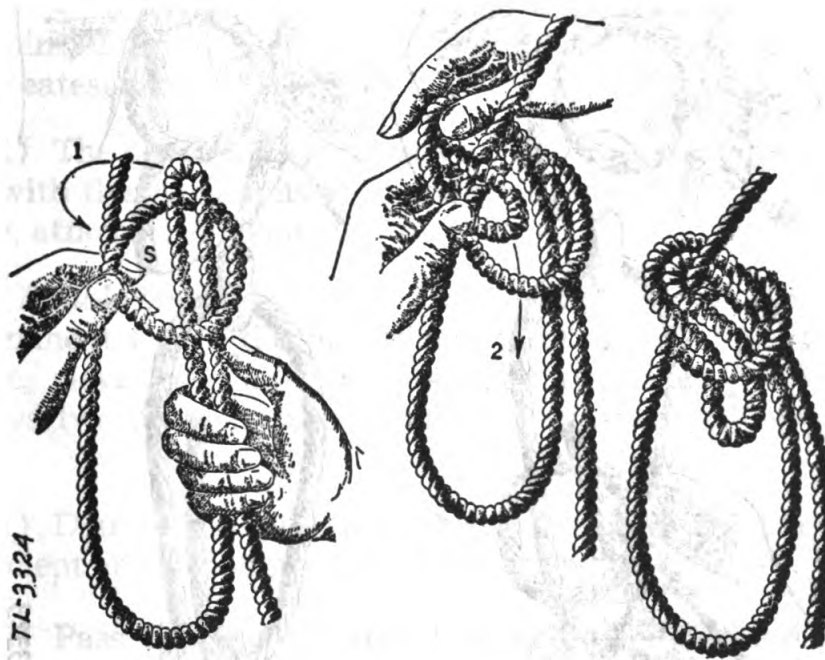

Figure 9
f. Single intermediate bowline.—This knot is used to attach the rope to the hook of a block, where the end of the rope is not readily available. See figure 9.
(1) The operations required in making this knot are identical with the single bowline, not attached to an object, with one exception; that is, in step (D) the part with which the knot is completed is not a free end but a part of the rope doubled back in a bight.